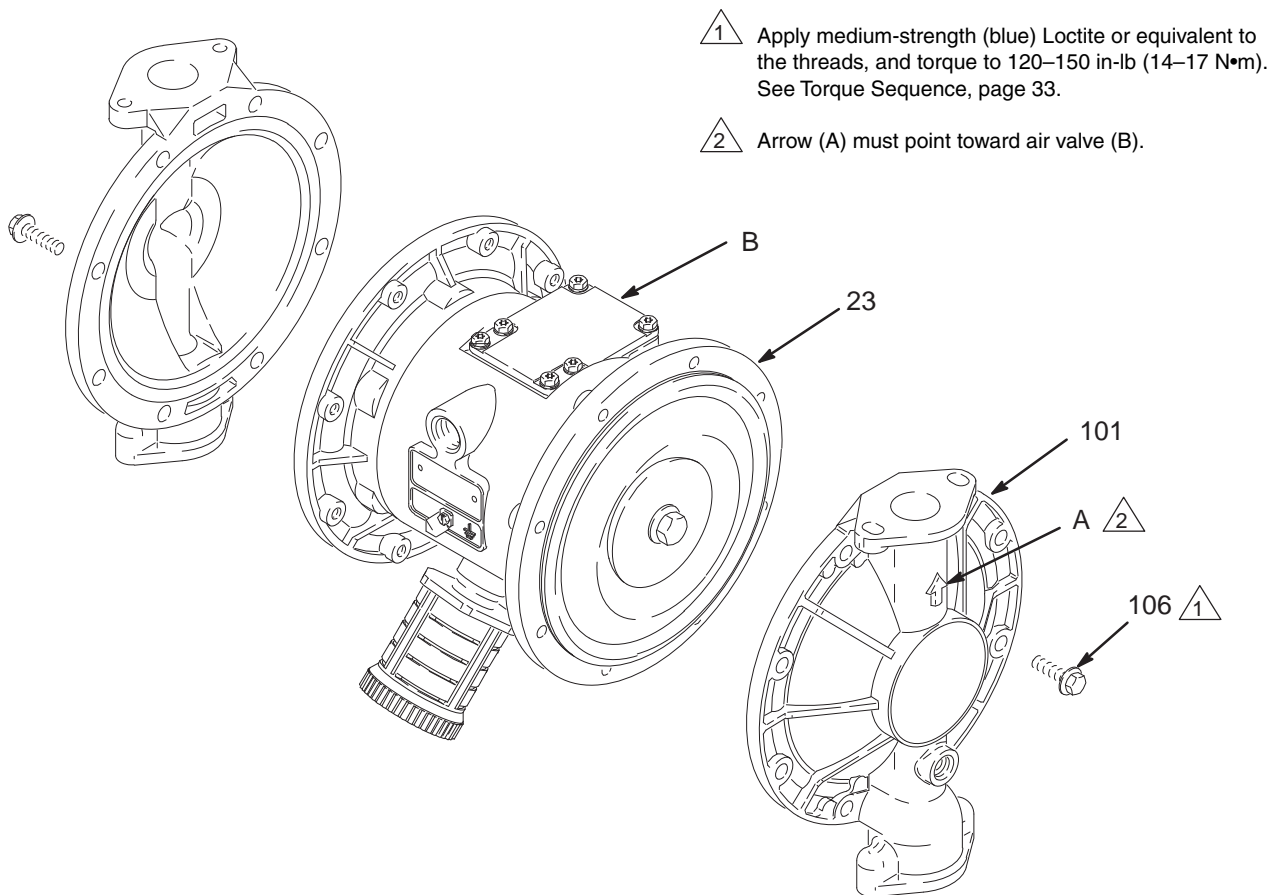

Fig. 13
3. Using a 10 mm socket wrench, remove the screws (106) holding the fluid covers (101) to the air covers (23). Pull the fluid covers (101) off the pump. See Fig. 13.
- c. *On PTFE models only*, install the PTFE diaphragm (403*). Make certain the side marked AIR SIDE faces the center housing (1).
- d. Install the diaphragm (401*) on the bolt. Make certain the side marked AIR SIDE faces the center housing (1).
- e. Install the air side diaphragm plate (104) so the rounded side faces the diaphragm (401). This plate is used on all models, and is stamped with its part number.
- f. Apply medium-strength (blue) Loctite® or equivalent to the bolt (107) threads. Screw the bolt into the shaft (24) hand tight.
3. Grease the length and ends of the diaphragm shaft (24), and slide it through the housing (1).
5. Hold one shaft bolt (107) with a wrench and torque the other bolt to 20–25 ft-lb (27–34 N•m) at 100 rpm maximum.
6. Align the fluid covers (101) and the center housing (1) so the arrows (A) on the covers face the same direction as the air valve (B). Apply medium strength (blue) Loctite® or equivalent to the threads of the screws (106). Secure the covers with the screws handtight. See Fig. 13. Using a 10 mm socket wrench, torque the screws oppositely and evenly to 120–150 in-lb (14–17 N•m). See **Torque Sequence**, page 33.
1. Lubricate and install the shaft u-cup packings (402*) so the lips face **out** of the housing (1). See Fig. 13.
2. Assemble the air side plate (104) onto the diaphragm (403). The wide, radiused side of the plate must face the diaphragm. Apply medium-strength (blue) Loctite or equivalent to the threads of the diaphragm assembly. Screw the assembly into the shaft (24) hand-tight.
3. Grease the length and ends of the diaphragm shaft (24). Insert the shaft/diaphragm assembly into one side of the pump. Align the fluid cover (101) and the center housing (1) so the arrow (A) faces the same direction as the air valve. Secure the cover with the screws (107 and 108), handtight.
4. Torque the longer screws (108) oppositely and evenly to 190–220 in-lb (21–25 N•m), using a 13mm socket wrench. Then torque the shorter screws (107). See **Torque Sequence**, page 33.